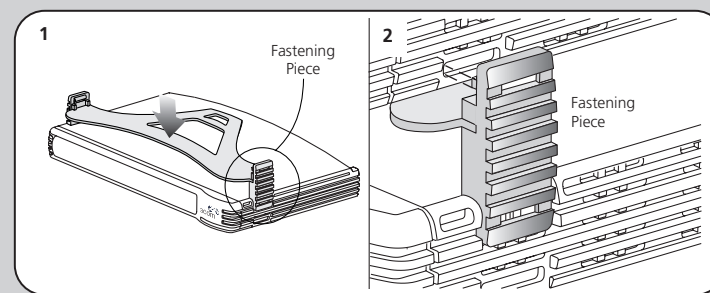

Figure 2 Stacking Your Units together
- Fit the clip across the top of the unit, as shown in Figure 2 (picture 1), ensuring that the longer sections of the fastening pieces are pointing downwards.
- Press down gently on the unit to secure it onto the clip, ensuring the fastening pieces fit into the slots on the unit below, as shown in Figure 2 (picture 2).